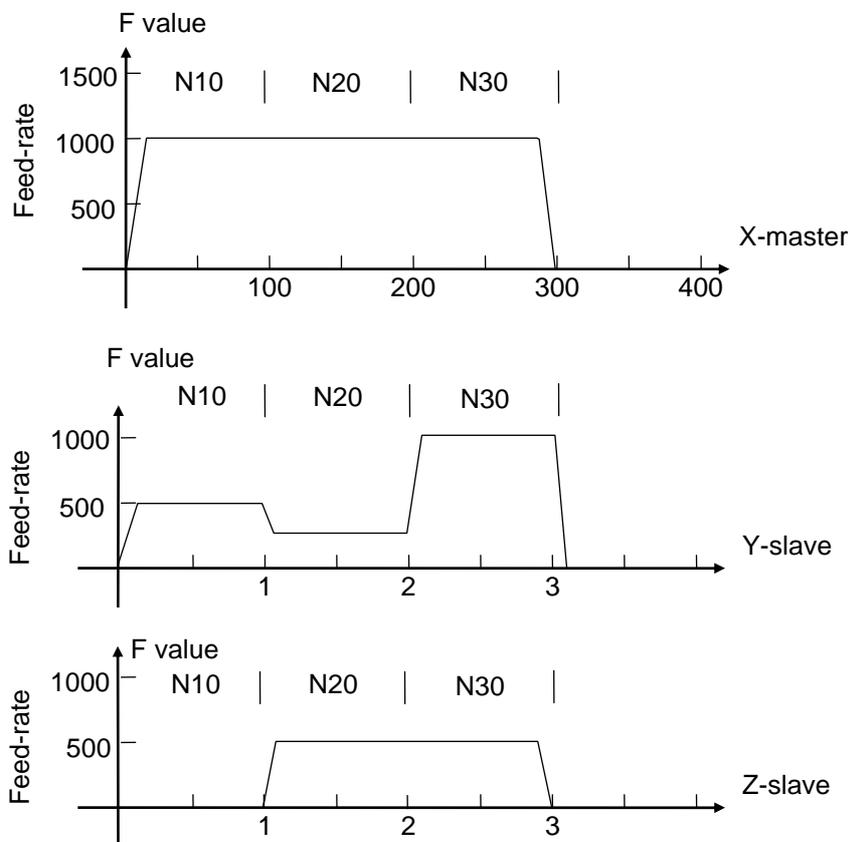

Fig. 3-5 Mater/Slave mode – Master Speed unchanged
Ex2: As shown in Fig 3-5, X is the master while Y and Z are the slaves. The feed-rate of the master axis (X) in each block doesn't change, but the feed-rate of the slave axes (Y, Z) changes along with the incremental slope ratio.
In Example 2, the feed-rate of Y-slave changes along with the incremental slope rate of X, Y and is not reset to zero. Since both increments of the Z-axis are 50, the feed-rate remains the same. Note that there is a small interval between blocks during acceleration/deceleration. (Fig. 3-5)